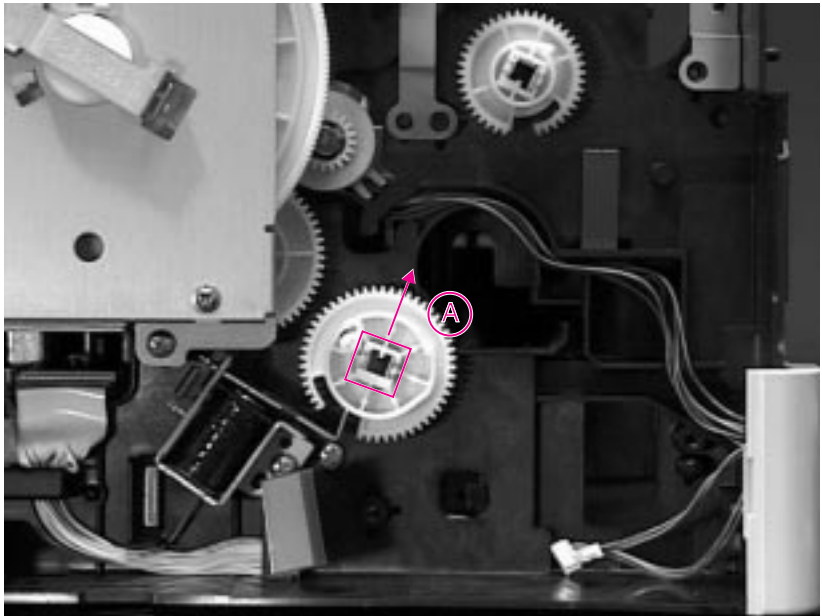

Figure 6-45 Reassembly of Tray 2 Shaft
- 4 Facing the left side of the printer, orient the shaft so that the open end points away from the solenoid. See Figure 6-45.